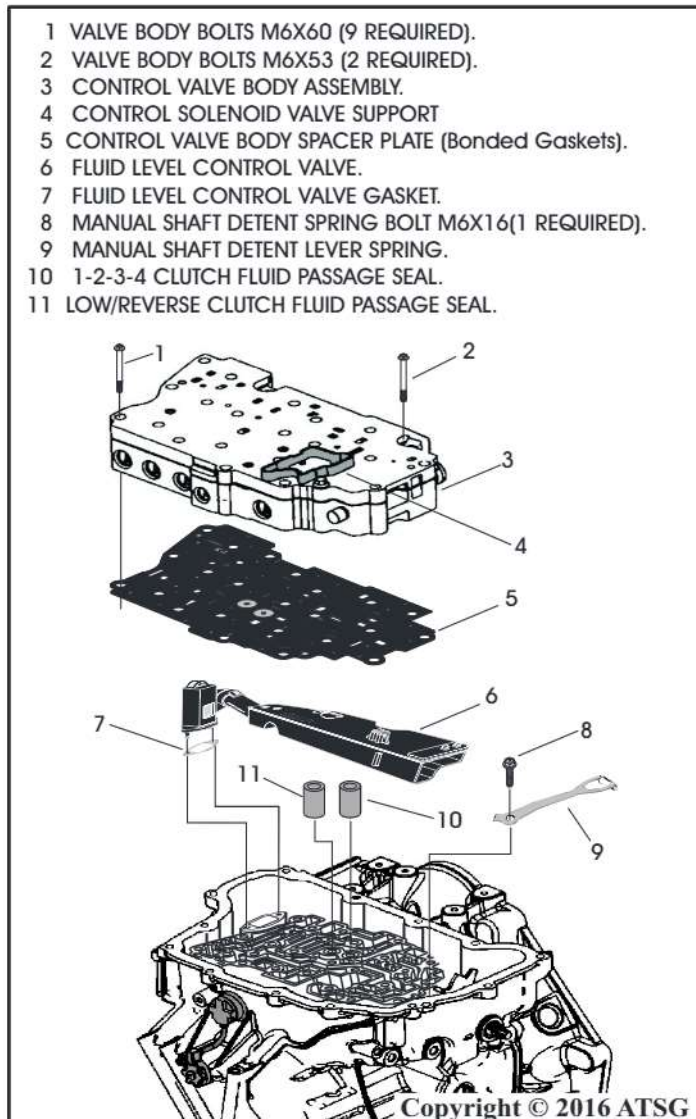

Figure 56
22. With the control valve body assembly bolts removed, lift the control valve body assembly up off the transmission case as shown in Figure 56 (the valve body spacer plate may come off with the valve body assembly).
24. Remove the fluid level control valve assembly and gasket as seen in Figure 56, discard the gasket.
25. Remove and discard the 1-2-3-4 and low/reverse clutch fluid passage seals shown in Figure 56.
26. Remove the manual shaft detent lever bolt and lever as seen in Figure 56.